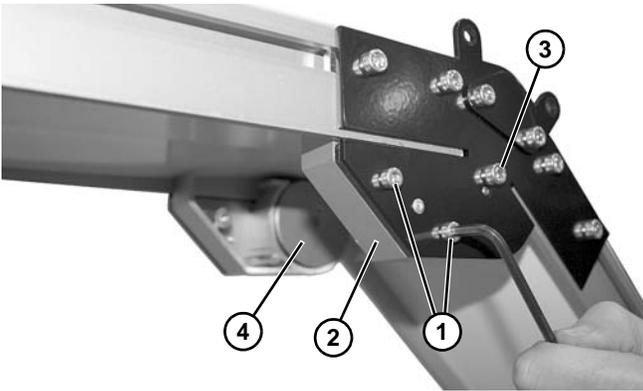

Figure 63
5. Remove screws (**Figure 63, item 1**) and remove guard (**Figure 63, item 2**) on both sides of knuckle.
6. Remove screw (**Figure 63, item 3**) and remove roller bearing assembly (**Figure 63, item 4**) on both sides of knuckle.